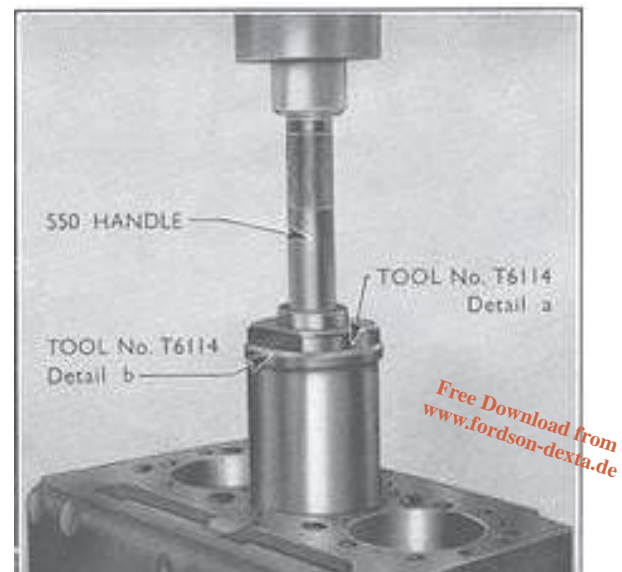

Fig. 25
4. Enter the liner into its bore in the cylinder block with the long chamfer in the line bore downwards. Assemble replacer ring (Tool No. T.6114 a in adaptor (Tool No. T.6114 b) and locate in the cylinder liner (see Fig. 25).